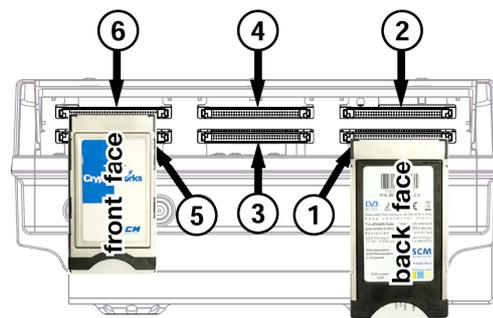

Fig. 5: Inserting the CA modules into the CI slots
Risk of damage to the CI slots. Insert the CA module (CAM) into the slots ②/④/⑥ with the **front space** uppermost; and into the slotse ①/③/⑤ with the **back face** uppermost (Fig. 5). See also the instructions for use supplied with the CAM.
2. Insert the CA modules as shown in the example in Fig. 5..